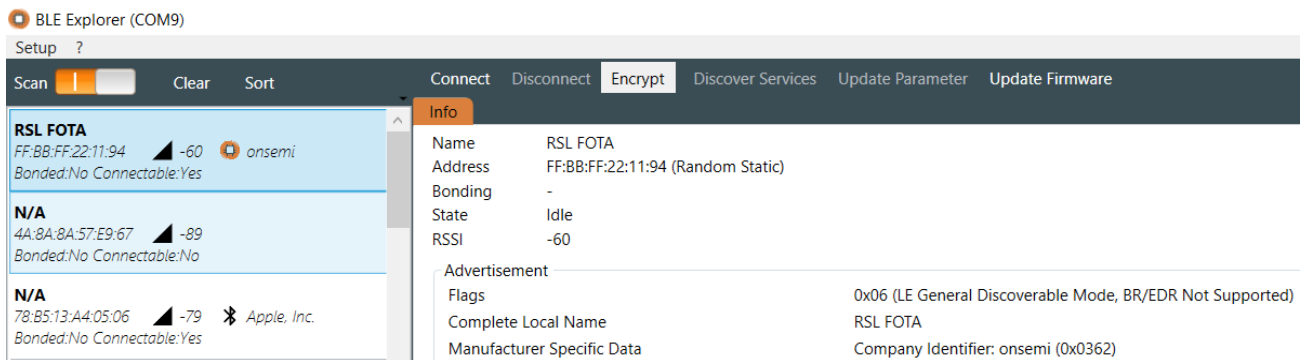

Figure 20. FOTA DFU Mode Running
4. Connect the FOTA_GPIO (GPIO1) to ground so that the device starts the FOTA DFU mode. You can see the name **RSL FOTA** on the RSL BLE Explorer. After checking that the name is **RSL FOTA**, disconnect FOTA_GPIO from ground, as in the "FOTA DFU Mode Running" figure (Figure 20), below: